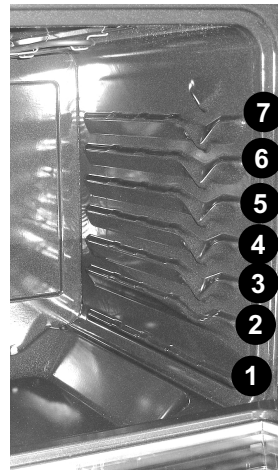

Fig. 1
2. Arrange the interior oven rack to recommended position (Figs. 1 & 4). For optimum browning results, preheat oven for **5 minutes** before adding food.